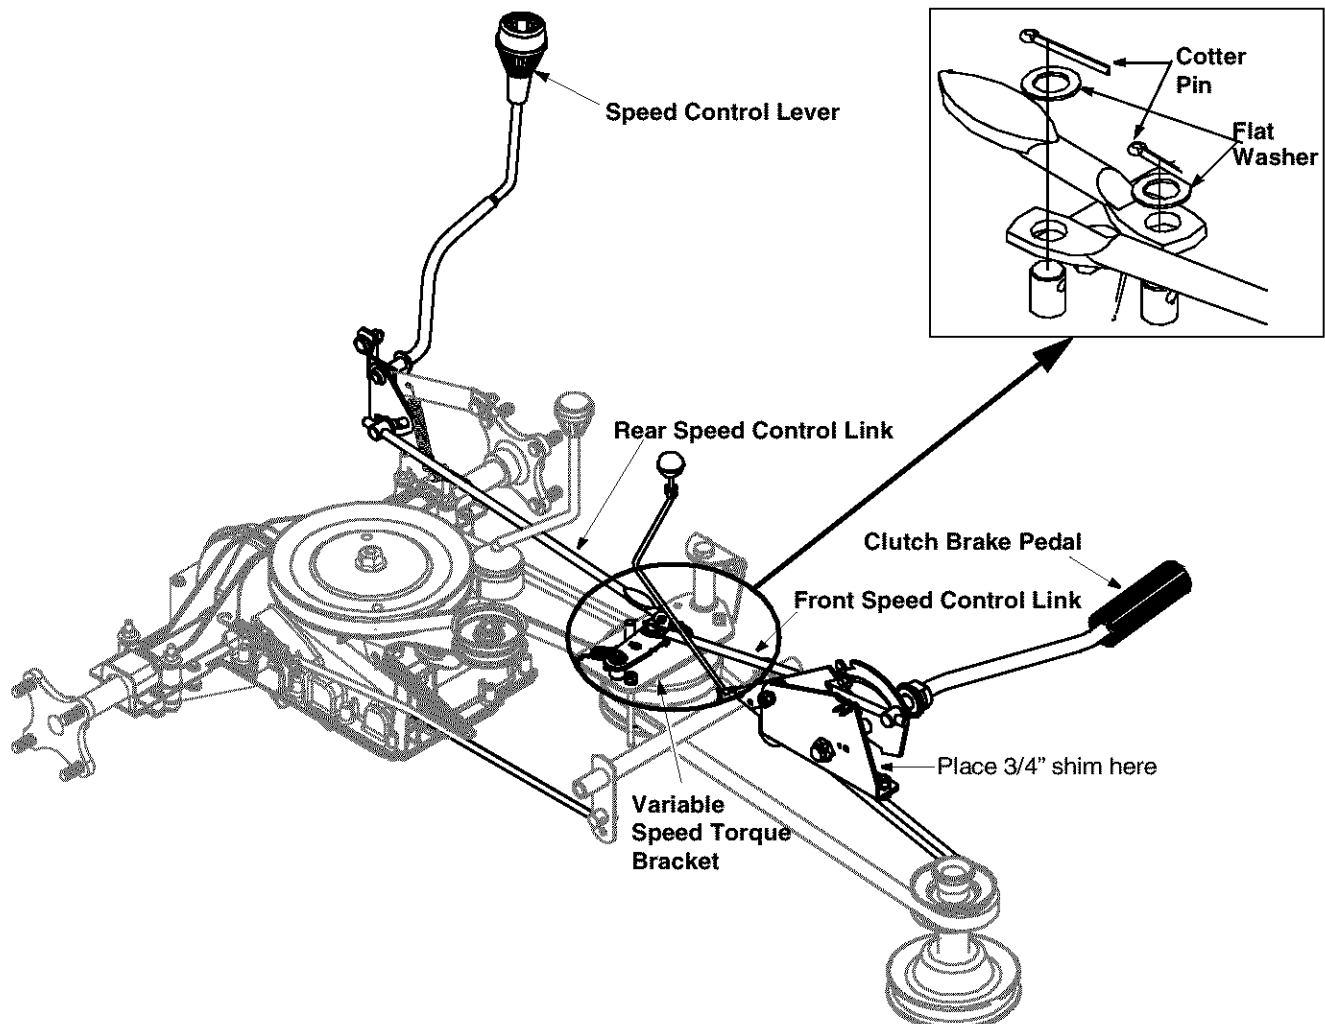

Figure 21
(See Figure 21)
- Place a 3/4" shim or other suitable object under the point on the bracket on the clutch-brake pedal as shown in Figure 21 .